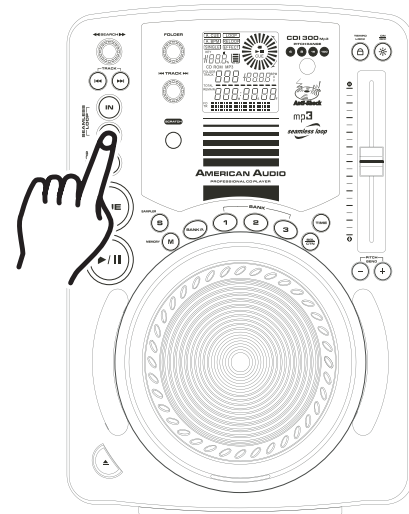

Figure 21
- 1) Press the *OUT BUTTON* (20) to return to normal play from the loops cue point. (Figure 21). This will disengage the SEAMLESS LOOP mode and allow you to edit the loops ending point.
- 2) Press the *OUT BUTTON* (20) again when you reach your new ending point (Figure 21).
- **FOR A SHORTER LOOP:** Press the *OUT BUTTON* (20) at sooner point in the track (Figure 21).
- **FOR LONGER LOOP:** Press the *OUT BUTTON* (20) at later point in the track (Figure 21).